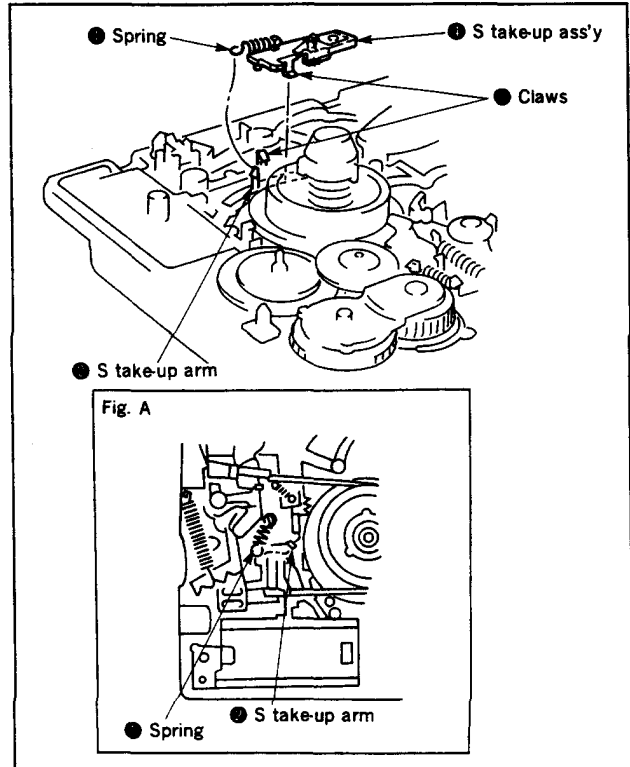

Fig. 3-22.
**3-16. S TAKE-UP ASS'Y (Fig. 3-22)**
- 2) Unhook the end of the spring ① from the S take-up arm ②.
- 3) Disengage the two claws ③, then remove the S take-up ass'y ④.